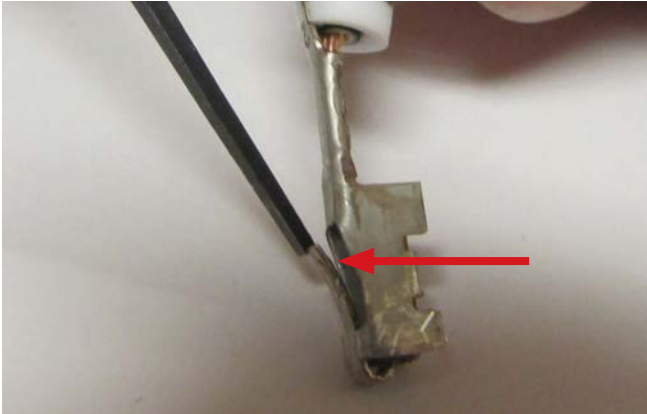

Figure 4
4. If the terminal will not stay in position when reinserting, the tang may have been bent downward in the removal process. Using a small screwdriver slightly bend the tang back up. **Reference Figure 4.**